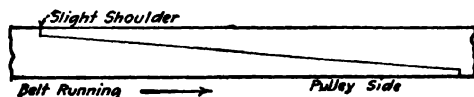

Fig. A-2.
**Cementing Belts.** Cementing together the lapped ends of a belt, Fig. A-2, is considered the best method of fastening. The ends are